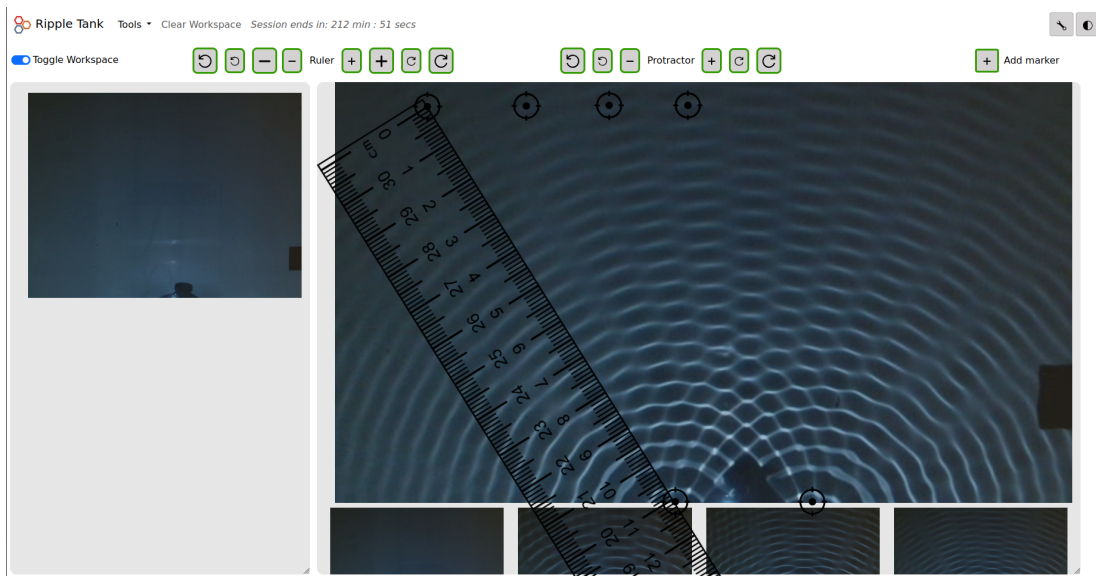

Figure 8: Screenshot of UI during a measurement of the path length from one source to the 4th order maximum.
- 8) By clicking **Add marker** and then moving the markers to appropriate positions, add a marker above the position of each of the two sources - see Figure 8.
- 9) Now add markers to the maxima from $m = 1$ to the largest visible, placing them as vertically far from the sources as possible and in the same plane as each other - see Figure 8.
- 10) Measure the path difference, $L_2 - L_1$, using the **Ruler**, for the largest order maxima visible ($m = 4$ in Figure 8).